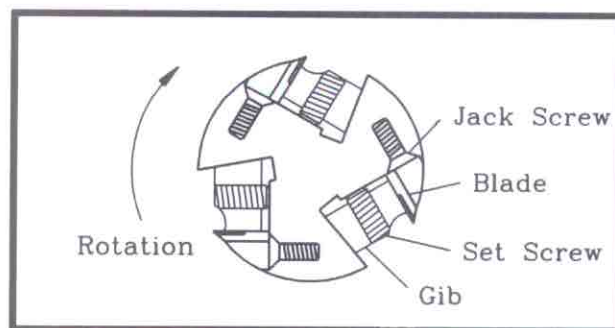

Fig. 9
11. Replace lock bars on knife number one as in Fig. 9 paying attention to which direction they face.
12. Carefully install new or sharpened knife into cutterhead between lock bar and cutterhead. Note direction of knife as pictured in Fig. 9.